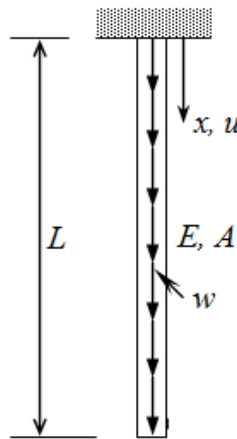

Figure 1
1. (a) Using suitable specialization of basic equations in 3D elasticity, derive the governing differential equation for the linear elastic bar problem shown in **Figure 1** where E : elastic modulus, A : cross-sectional area, w : uniformly distributed load per unit length. Next, using the derived governing differential equation, obtain the expression of axial displacement u and axial stress σ_x for the linear elastic bar problem. Both ends of the bars are fixed.